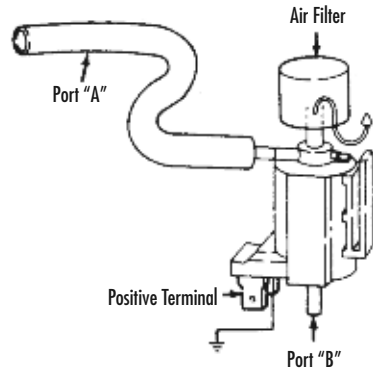

FIGURE 12: TYPICAL VACUUM SOLENOID
1) Disconnect vacuum and electrical connectors from the solenoid. Connect the pump to port "B" and attempt to apply vacuum with pump. Vacuum should be released through port "A" (FIGURE 12).